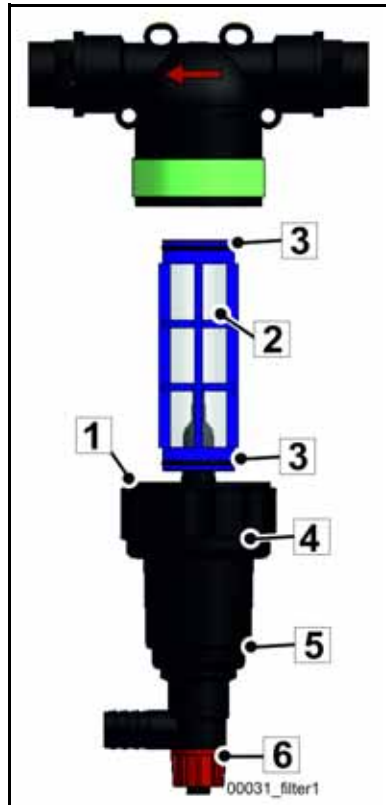

Fig. 440 Suction filter
- Loosen the housing (5) (**Fig. 440**) by hand.
- Remove the screen (2) (**Fig. 440**) from the housing of the suction filter.
- Check and replace the O-rings (1+3) (**Fig. 440**), if necessary.
Caption for suction filter (Fig. 440)